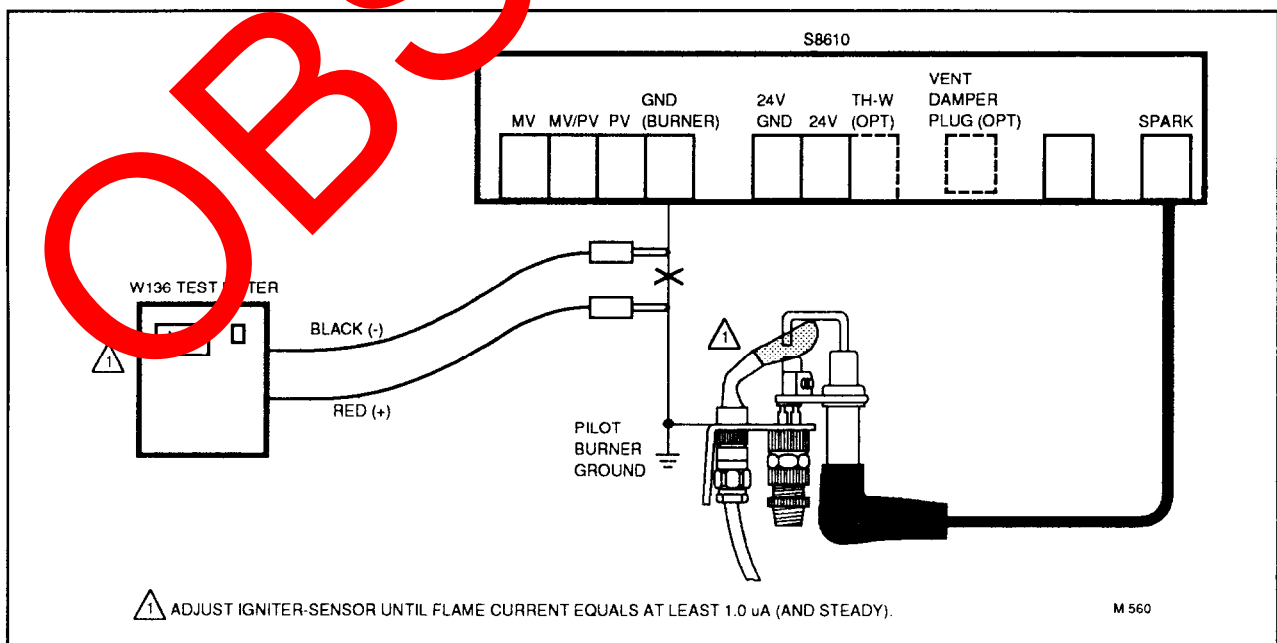

FIG. 21—ADJUSTING FLAME CURRENT.
3. Connect the microammeter negative lead to the control module GND (BURNER) terminal and the positive lead to the green ground wire (Refer to Fig. 21).